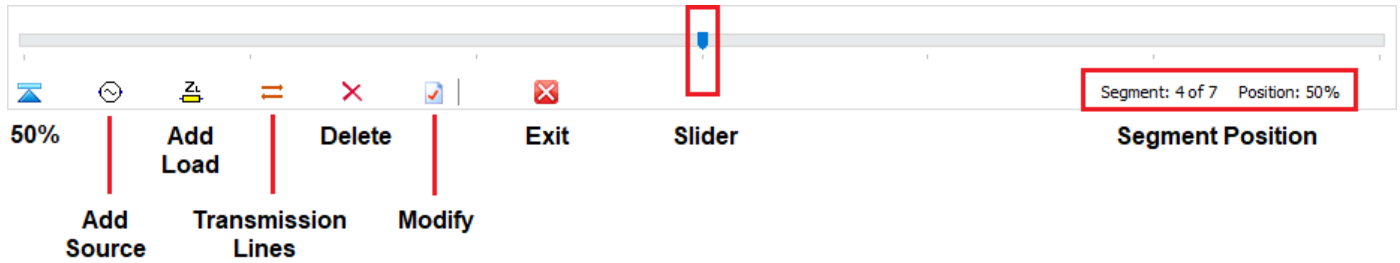

Fig. 1: The Source/Load/TL toolbar used to add and edit sources, loads, and transmission lines.
- **Right-click** on any part of a wire and select **Source / Load / TL (Ctrl + Ins)** from the pop-up menu (Fig. 1).